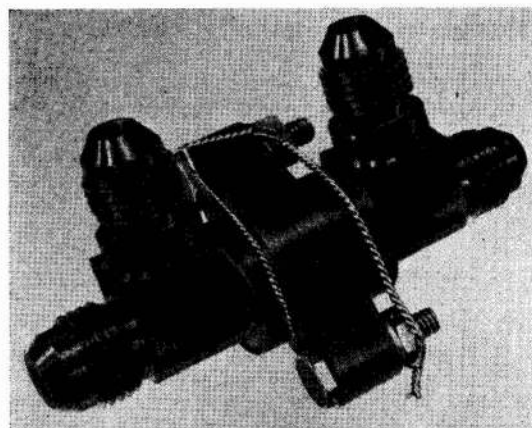

Fig. 10. Check valve (Part No. OP.18630)
20. This valve (fig. 10 and 11) is used in certain package units to limit the flow of liquid oxygen from the liquid oxygen container as described in para. 1. The body of the unit is in two portions, an inlet and an outlet, these being bolted together and sealed by means of an O-ring. A housing formed jointly by the two bodies contains a spring and a square-sectioned stainless steel valve, the head of which is fitted with a silicone rubber seal; the seal is located by a retainer and a special screw.